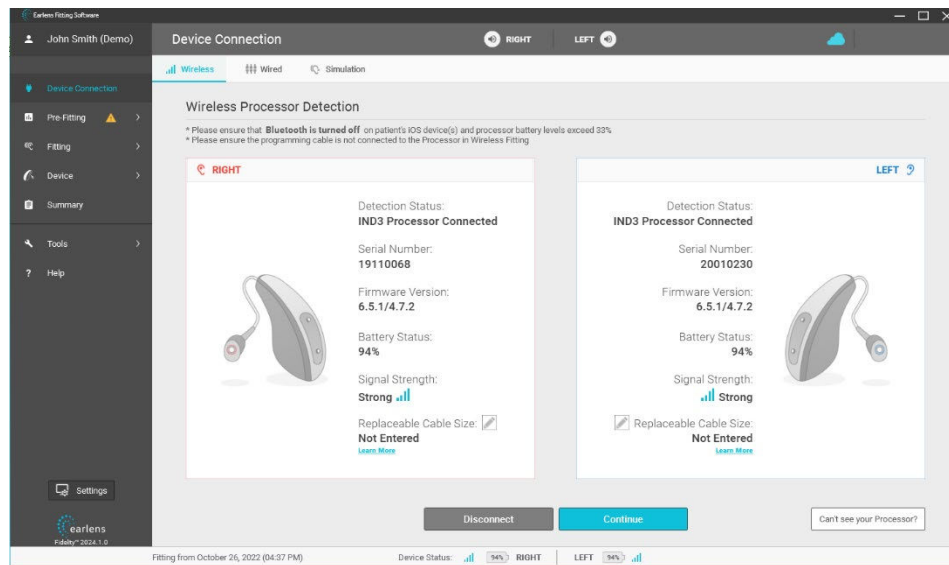

Figure 23. Device connection screen: details of connected processors
- Once the Processor(s) are connected, you will see details of the connected Processor(s) on the screen. Select "Continue" to begin the fitting session (Figure 23). You can also input replaceable cable size for future reference (optional feature).